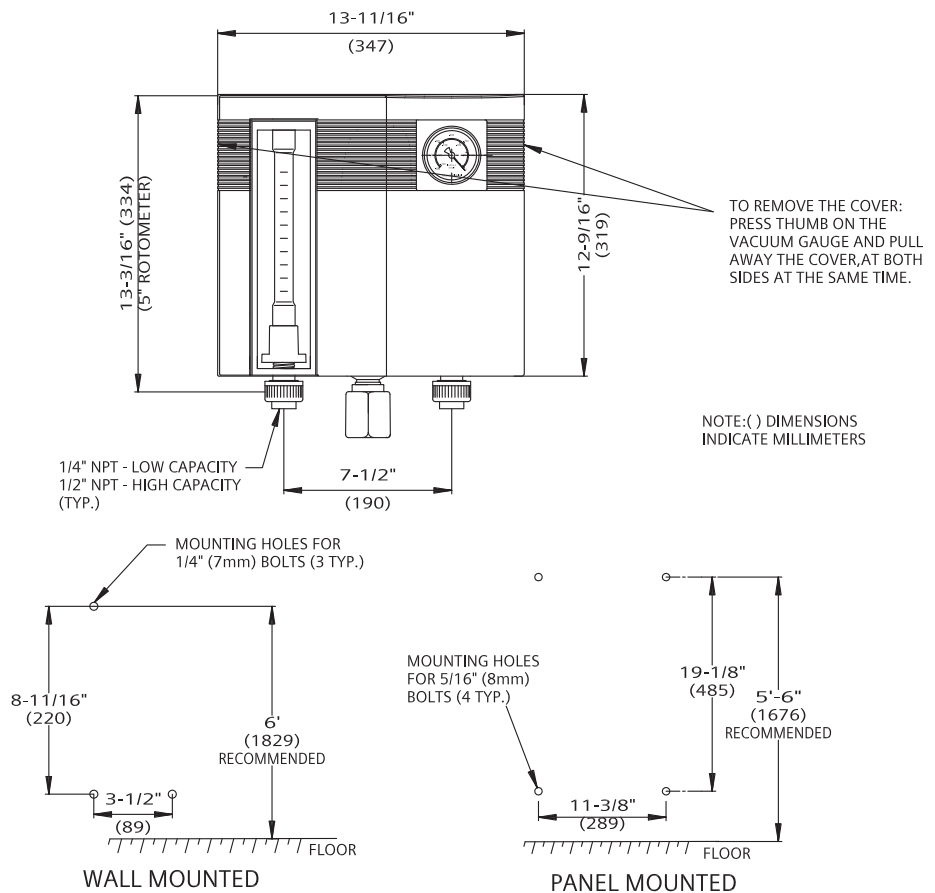

Figure 2.1
- a. Provide mounting holes in the locations and sizes shown in Figure 2.1.